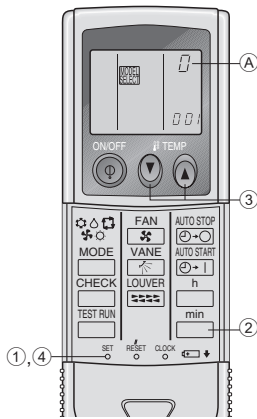

Fig. 6-8
2) Assigning a IR wireless remote controller to each unit (Fig. 6-8)